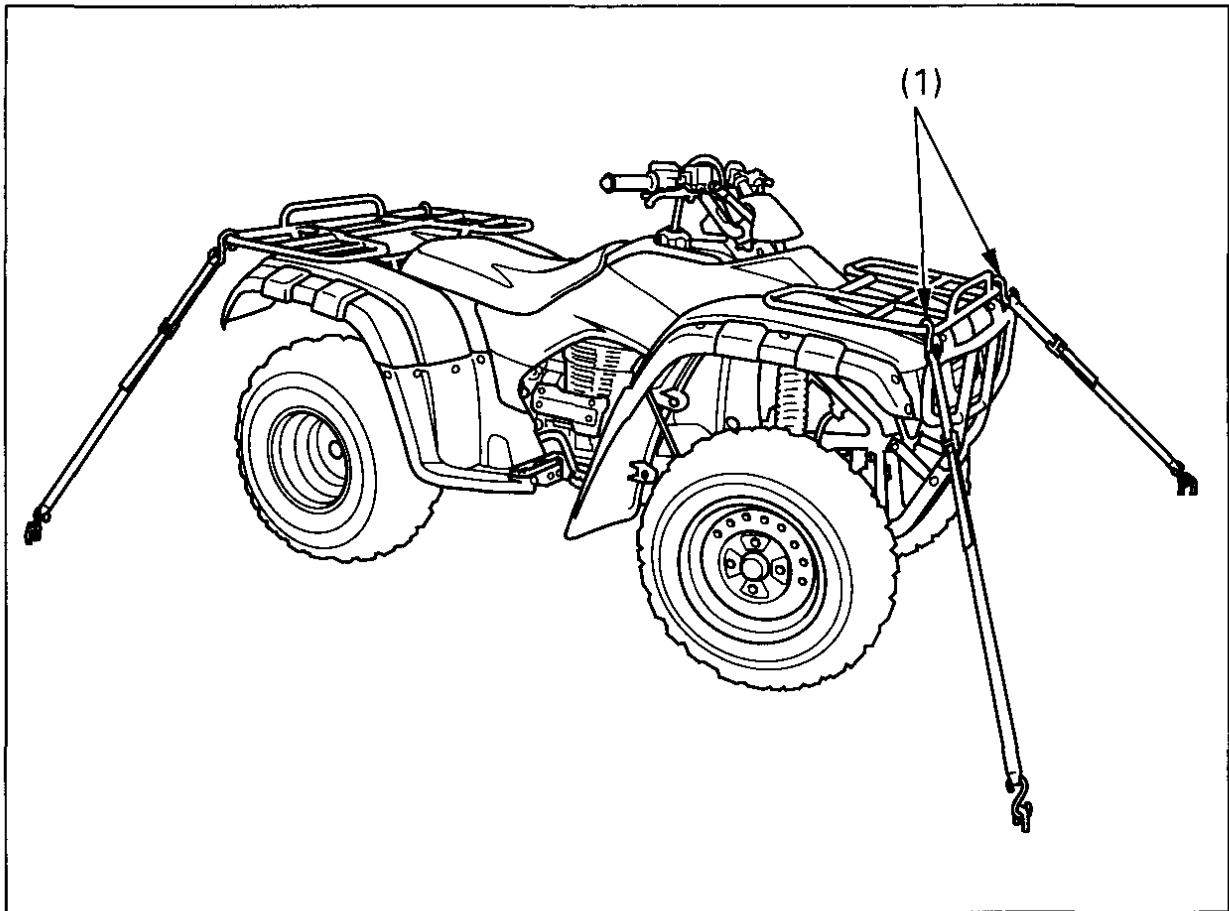

Fig. 4-39 Points to secure
3. Secure the vehicle with "tie downs" in the areas shown (Fig. 4-39). Suitable "tie downs" are available from your Honda dealer. Ordinary rope is not recommended because it can stretch under load.